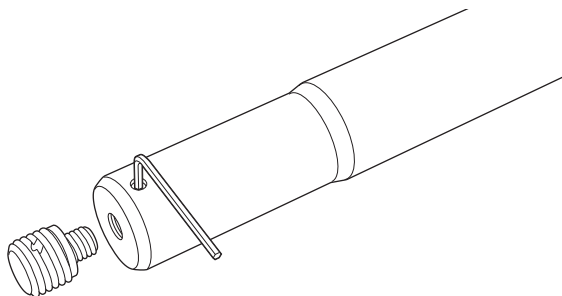

Figure 32: Pole with M20 Slug Removed
4. Tighten the set screws enough to ensure they will remain in the pole (Figure 32).